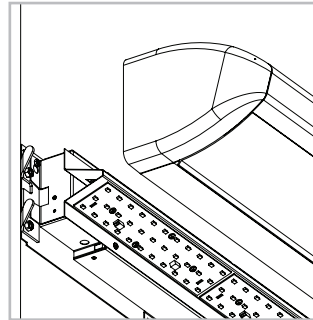

Figure 5: Alignment of the Shroud to the Back Plate
1. Align the Shroud in front of the Wire Way/Back Plate assembly as shown in *Figure 5*.